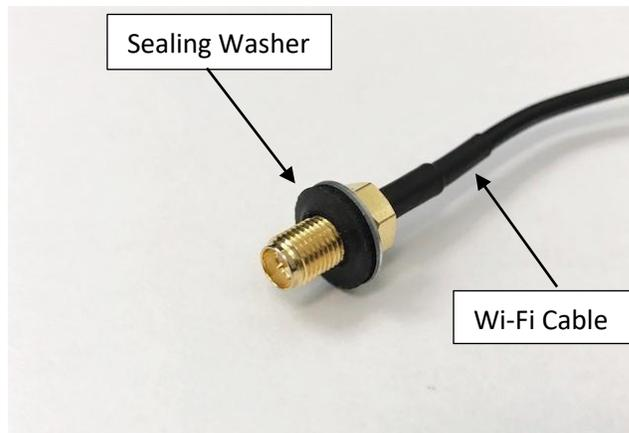

Fig 4
2. Install the sealing washer on the male end of the Wi-Fi cable making sure the rubber side of the washer is facing out (Fig. 4).